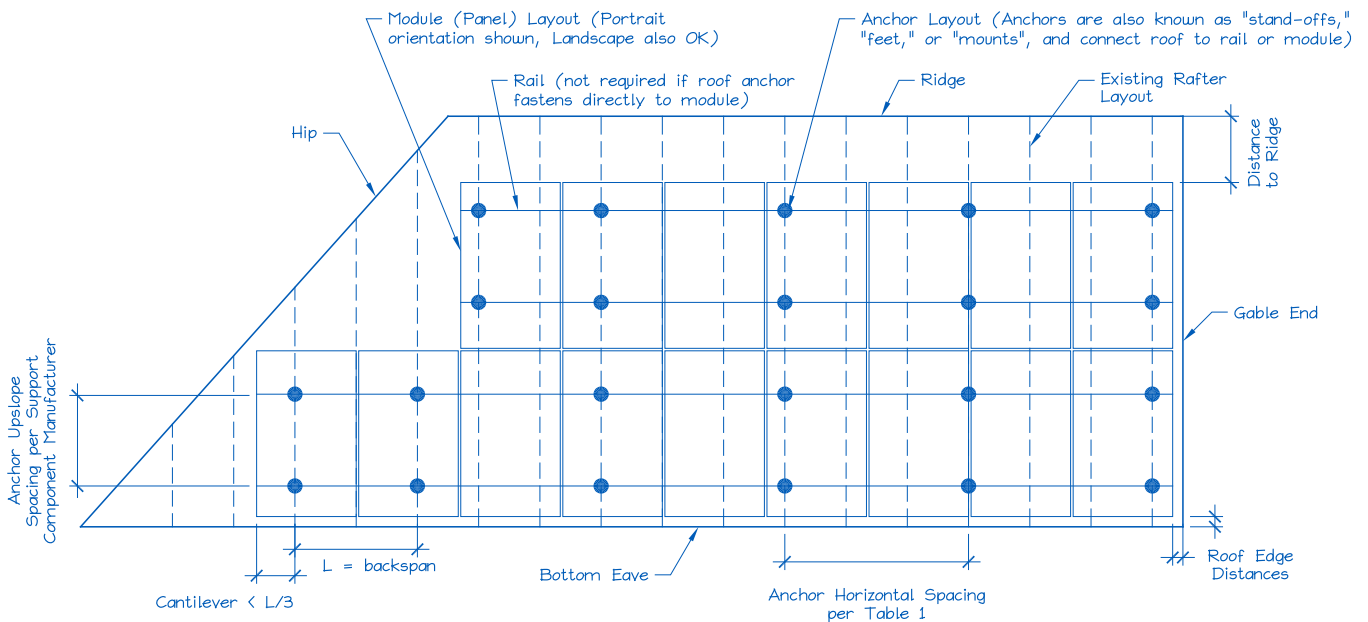

Figure 2. Sample Solar Panel Array and Anchor Layout Diagram (Roof Plan).
E. Is a roof plan of the module and anchor layout attached? (see Figure 2)